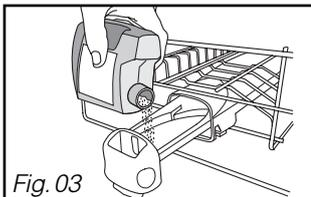

Fig. 03
• **Powders or liquids (Fig 03)**